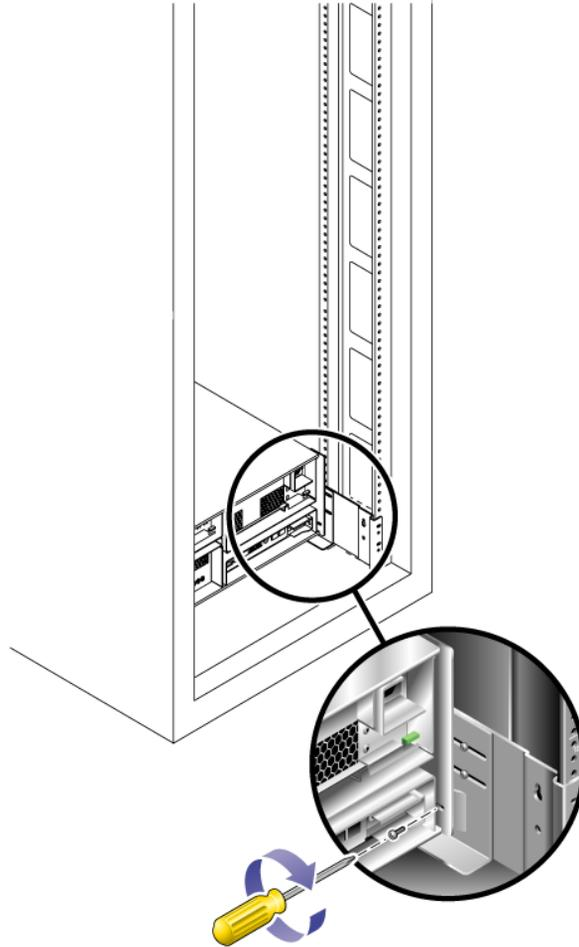

FIGURE 2-21 Securing the Tray to the Back of the Cabinet Rail
4. **Install and tighten two 6-32 screws (one per side) at the back of the tray, to secure the back of the tray to the cabinet** (FIGURE 2-21).